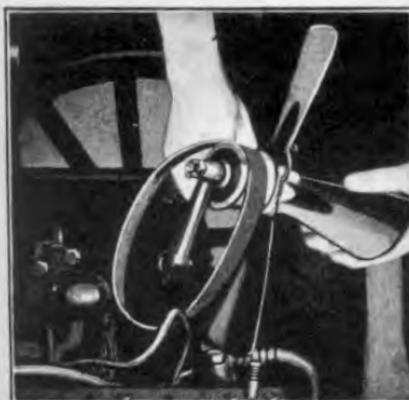

Fig. 23
- (c) Fan together with fan belt can now be removed (See Fig. 23).